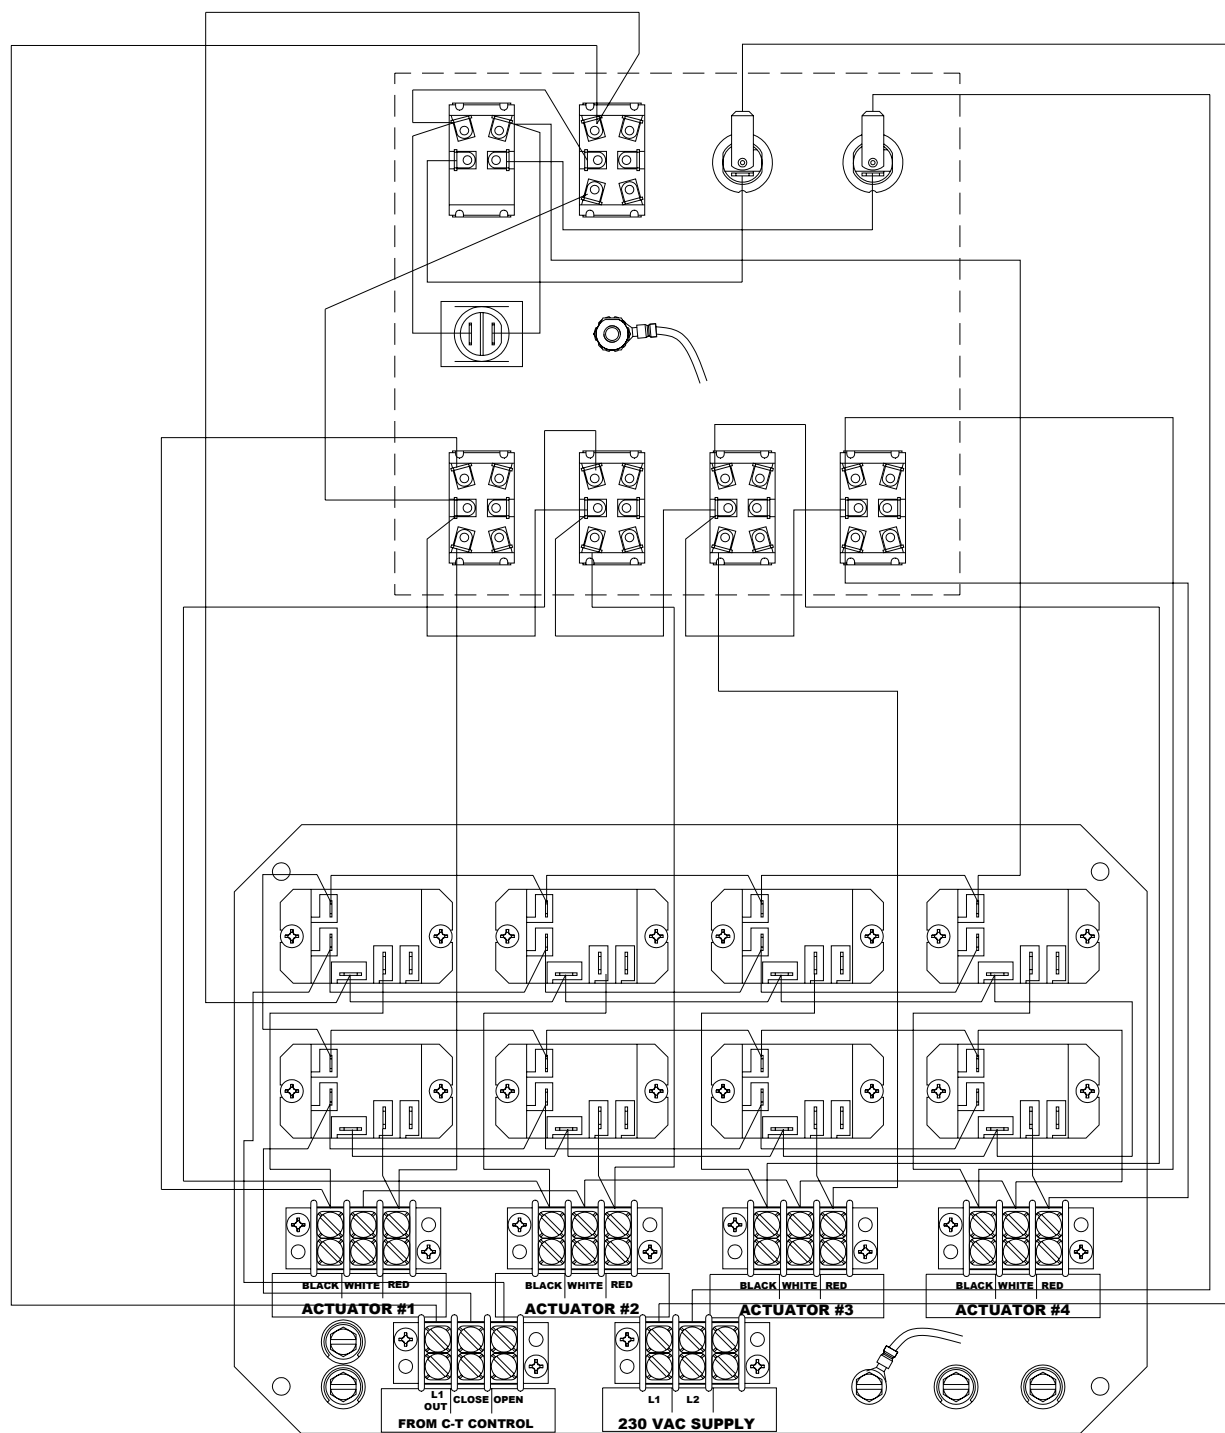

Figure 62. Control Wiring Internal
2. Start at the hopper end of the line and form a loop around the anti-roost bracket. For best results, make a double loop around the anti-roost insulator in the center groove of the insulator and fasten with a 1/16" cable clamp as shown in **Figure 62**.